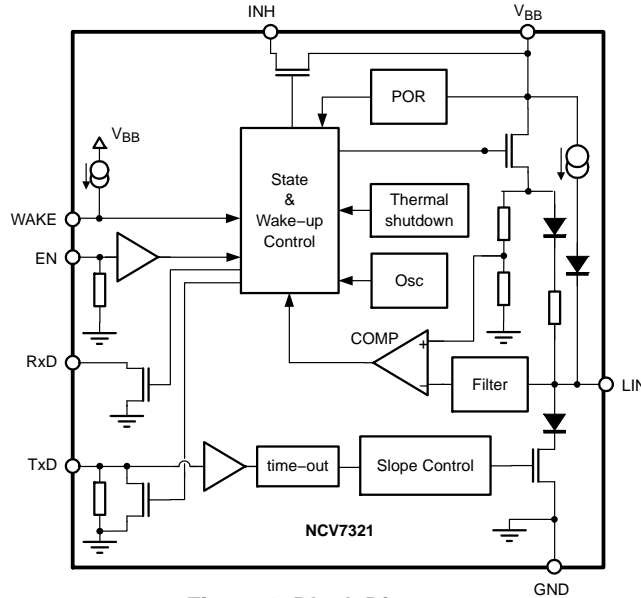

Figure 1. Block Diagram
16. The voltage drop in Normal mode between LIN and  $V_{BB}$  pin is the sum of the diode drop and the drop at serial pull-up resistor. The drop at the switch is negligible. See Figure 1.